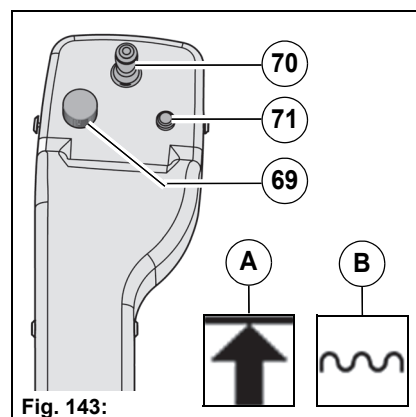

Fig. 143:
- The information symbol **Fig. 143-A** appears in the upper end position.
- The information symbol **Fig. 143-B** appears in the floating position.